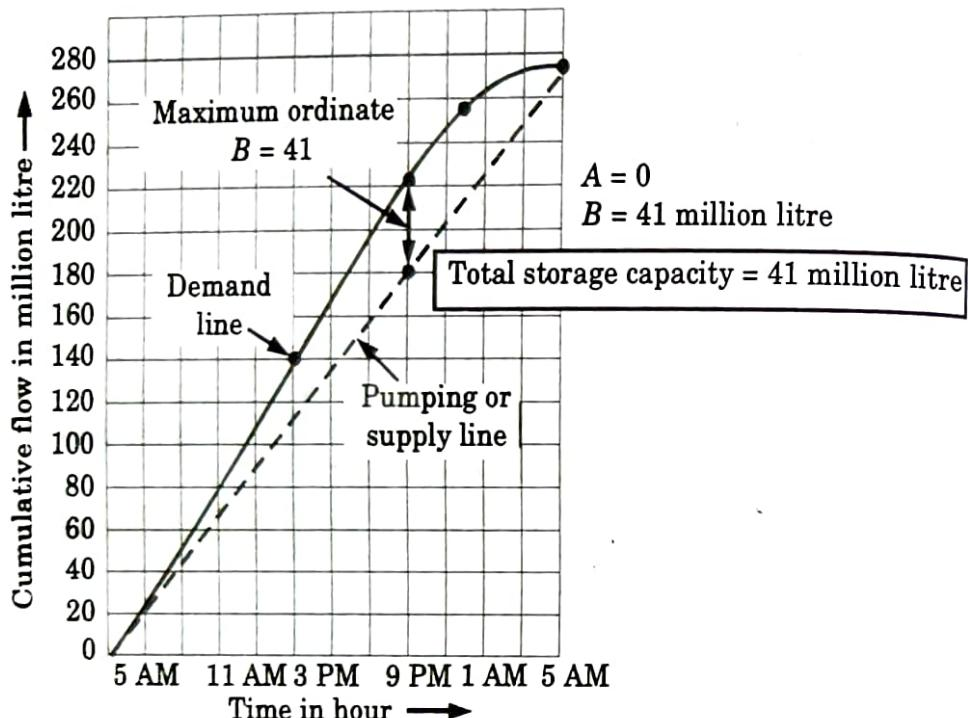

Fig. 2.8.1.
- The mass curve of demand is now plotted from the data of column (1) and column (4) of the Table 2.8.1, as shown in Fig. 2.8.1.
4. The supply line on the mass diagram will be a straight line with its slope of 11.25 million litre per hour, as shown in Fig. 2.8.1.
5. The two maximum ordinates A and B enclosed between the demand line and the supply line are read out from Fig. 2.8.1, as :